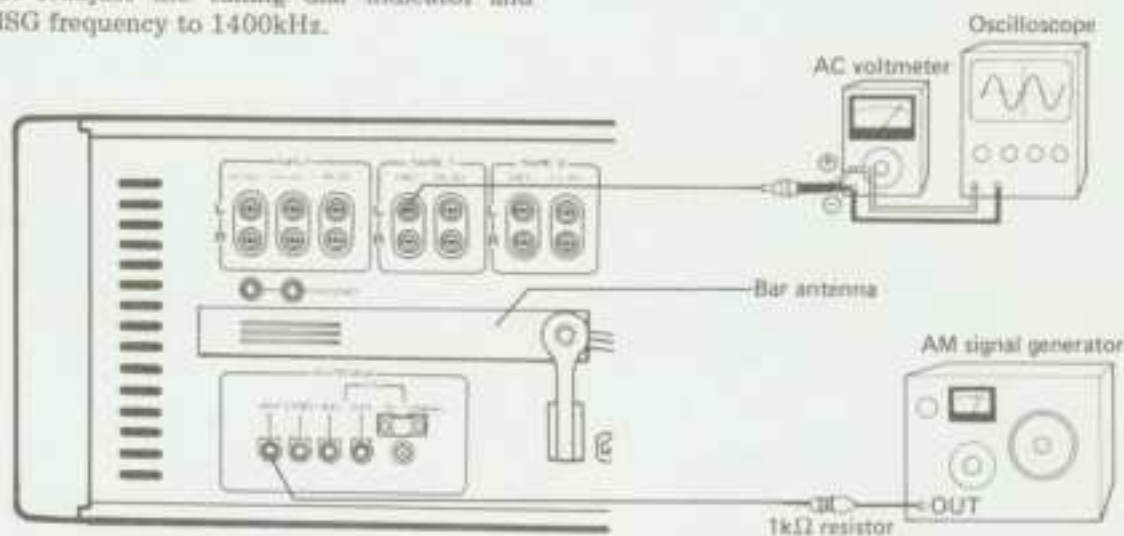

Fig. 21
1. Connect the AM signal generator (AMSG) to the AM ANTENNA terminal via a  $1k\Omega$  resistor (Fig. 21).